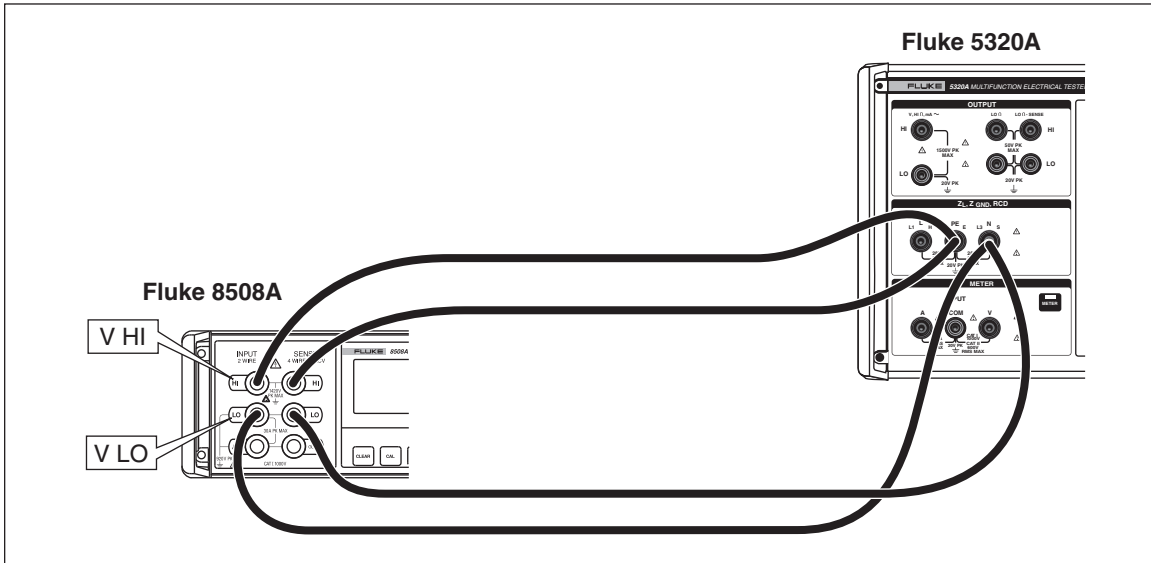

Figure 3-30. High Test Current Verification with Ohmmeter
3. Connect the multimeter to the calibrator as shown in Figure 3-30.